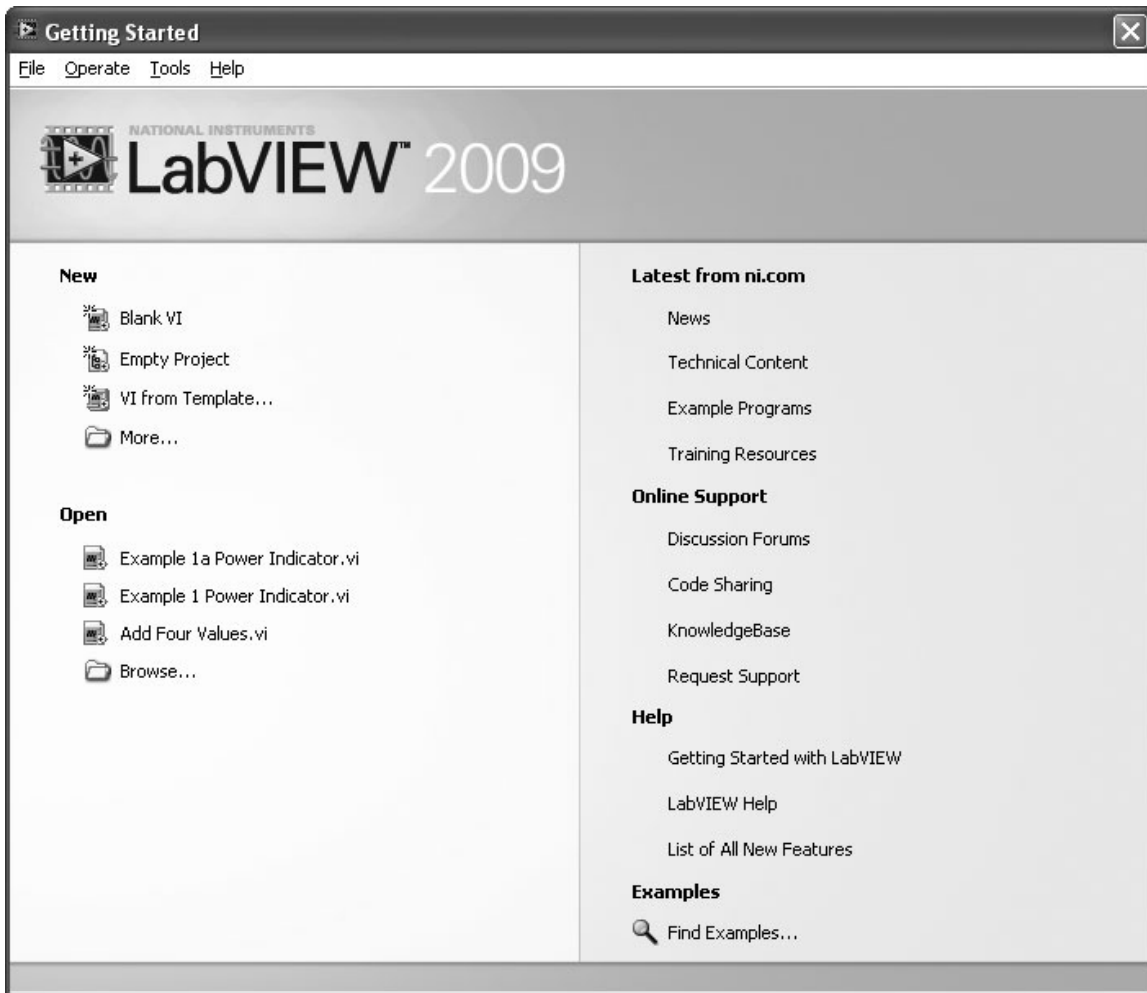

Figure 2.1
When you start LabVIEW, the Getting Started window is opened (Figure 2.1). The **Open panel** provides a list of recently edited VIs and a **Browse . . .** option to find previously created VIs on your computer. To open one of the VIs in the recent files list, simply click on the file name in the list.
- From the LabVIEW Getting Started window, click on the **Blank VI** link shown in Figure 2.1. This causes a new, blank VI front panel and block diagram to be displayed.